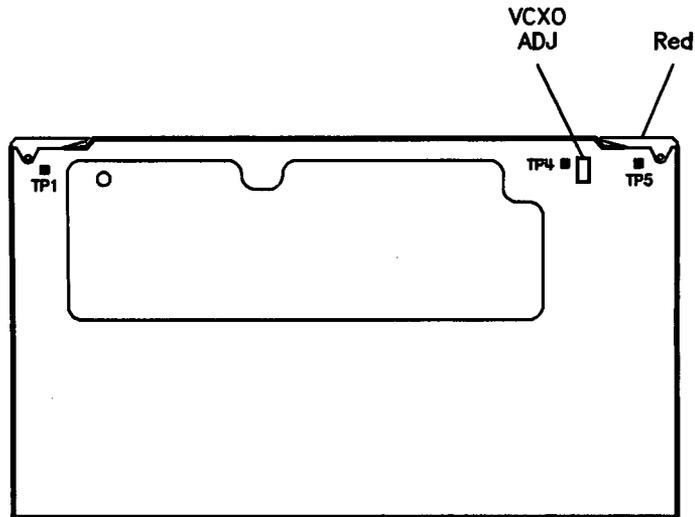

Figure 5–8. VCXO Adjustment Location
1. Connect port 1 of the analyzer to the frequency counter input (see Figure 5–5). Press **RECALL**
3. Otherwise, locate the A12 assembly (red extractors) and adjust VCXO ADJ (see Figure 5–8) for a frequency counter reading as close to 20.0 GHz as possible.
4. Calibrate the power meter. Remove the frequency counter and connect the power sensor to the same point. Adjust the low band power level (see Figure 5–10) so that the power meter displays 0 dBm.
2. Calibrate the power meter and connect it to port 1 (see Figure 5–10).
(HP 8722C Opt. 006, –27 dBm), (HP 8722C, –22 dBm) at port 1 (see Figure 5–9).